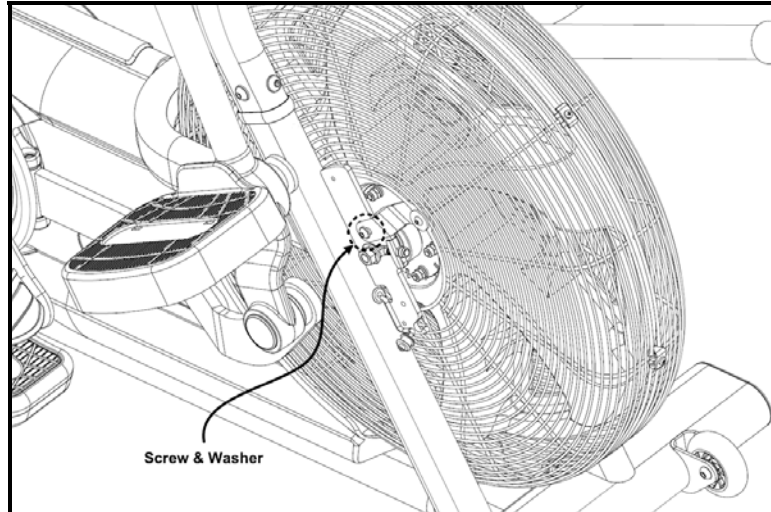

Fig. 14
16. Now remove the securing button head screw with washer (Fig. 14) from the center fan cage bracket on both left and right sides of the unit using a 4mm hex key.